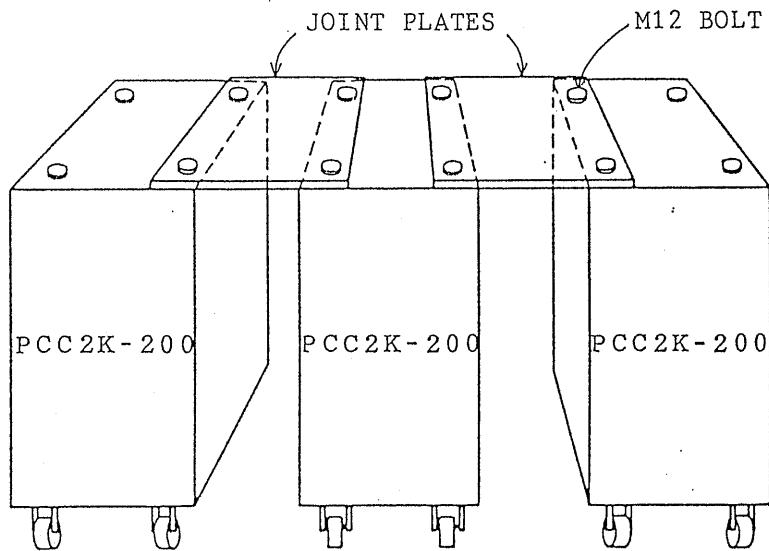

Figure 3-1
- o Fix the master and slave units as shown in Figure 3-1 (assuming that three units are operated in parallel).
- o Remove the M12 bolts on the top of the PCC2K-200 Units with the open-end wrench (using the "19" open end), place the joint plates as shown in Figure 3-1, and then fix the M12 bolts.